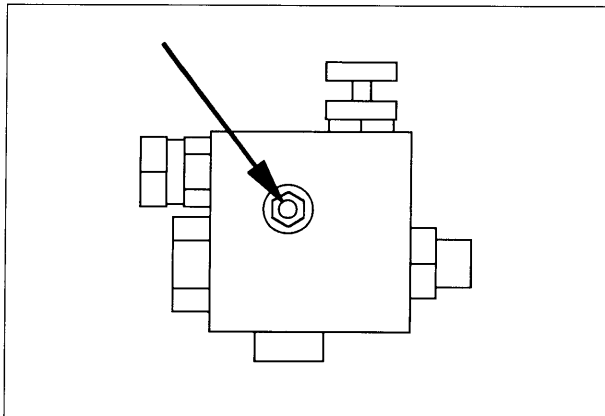

Fig. 59
See Fig. 59 & 60 on page 37 and 38.
- c. Loosen locknut for the relief valve screw (fig. 59), and unscrew *one* turn.
- e. Adjust relief valve screw (fig. 59) until pressure gauge shows 110 bar.
- g. Now adjust relief valve screw (Fig. 59) further in, until pressure gauge shows 130 bar. Lock relief valve screw with lock nut. This operation is required to set the relief valve at a higher pressure than the pressure controller (130bar against 110bar).